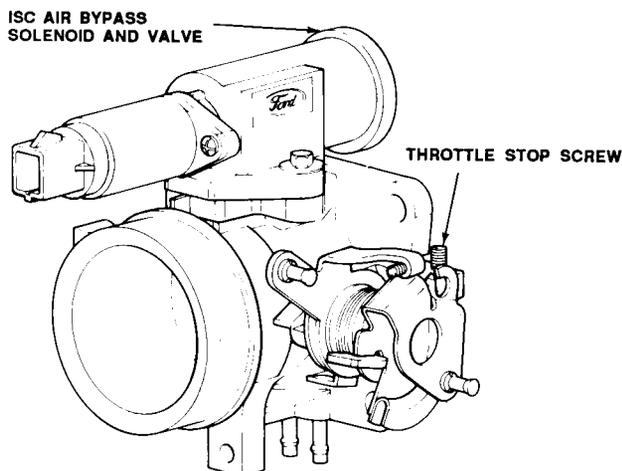

Figure F050-7
5. Turn the throttle stop screw (Figure F050-7), to adjust idle speed to:
- 600 rpm (MT)
- 750 rpm (AT).